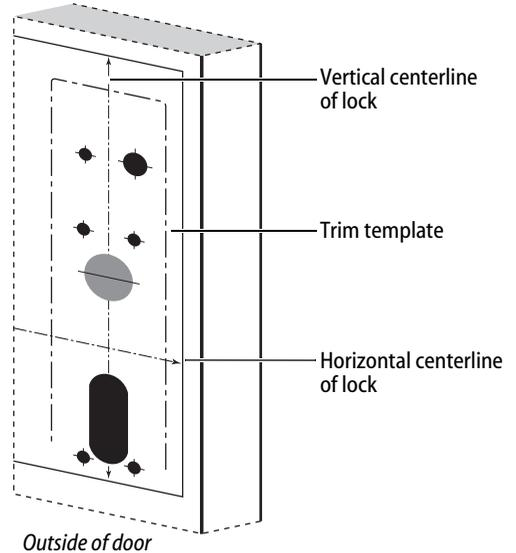

Figure 3 Positioning the trim template
- b Align the horizontal and vertical arrows marked on the template with the centerlines marked on the door. See Figure 3.
Align the mounting holes for the escutcheon and lock stile case marked on the template with the mounting holes in the door. See Figure 3.